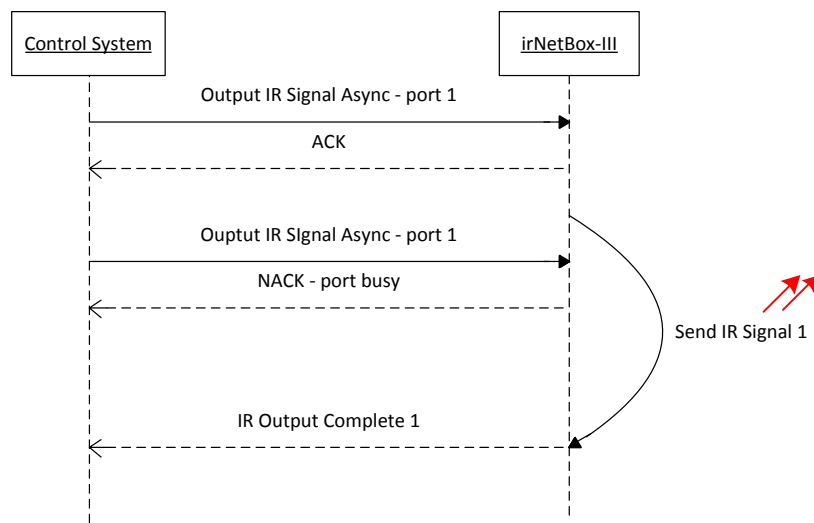

Figure 5. Attempt to send two async output commands to same port
- An async IR Output message may result in a NACK rather than ACK if that output command can't be processed for any reason. An example of this is that one or more of the requested ports are busy, as shown in Figure 5.